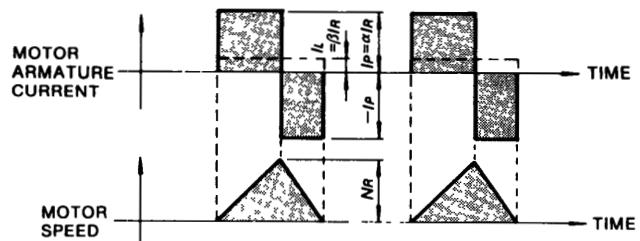

Fig. 4.4 Timing Chart of
- When the motor remains at standstill between cycles of acceleration and deceleration without continuous rated speed running (Fig.4.4).
The timing chart of the motor armature current and speed is as shown in Fig.4.4. The allowable frequency of operation "n" can be calculated as follows: